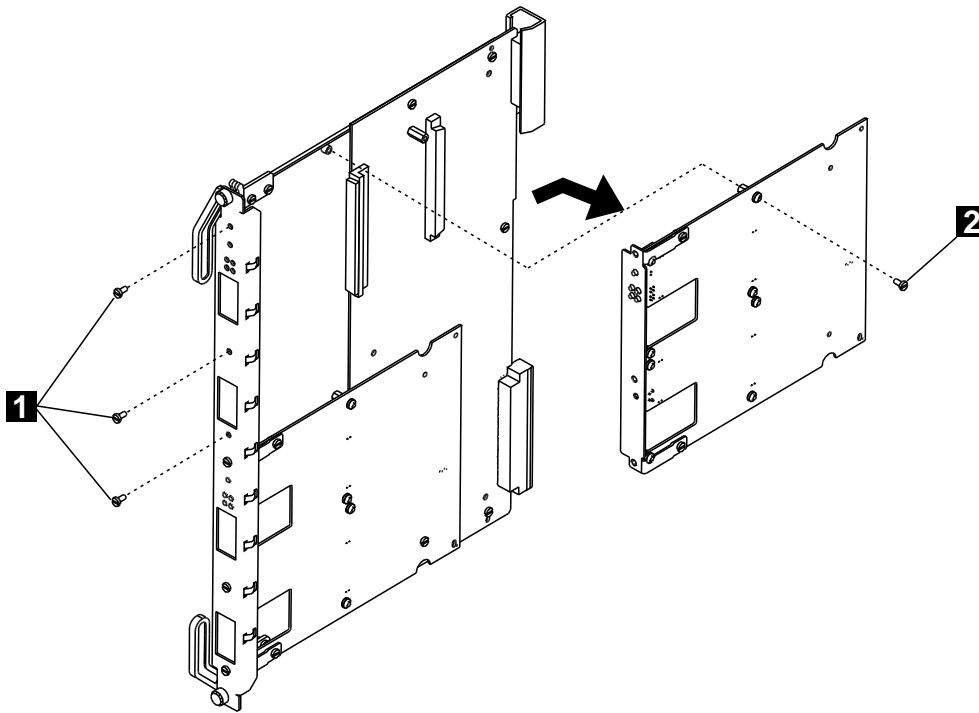

Figure 19. Removing the Motherboard
- 1 Detach the motherboard on which you want to install the I/O card by removing the four screws (1 and 2 in Figure 19) that hold the motherboard to the module. Retain the screws for reattaching the motherboard.